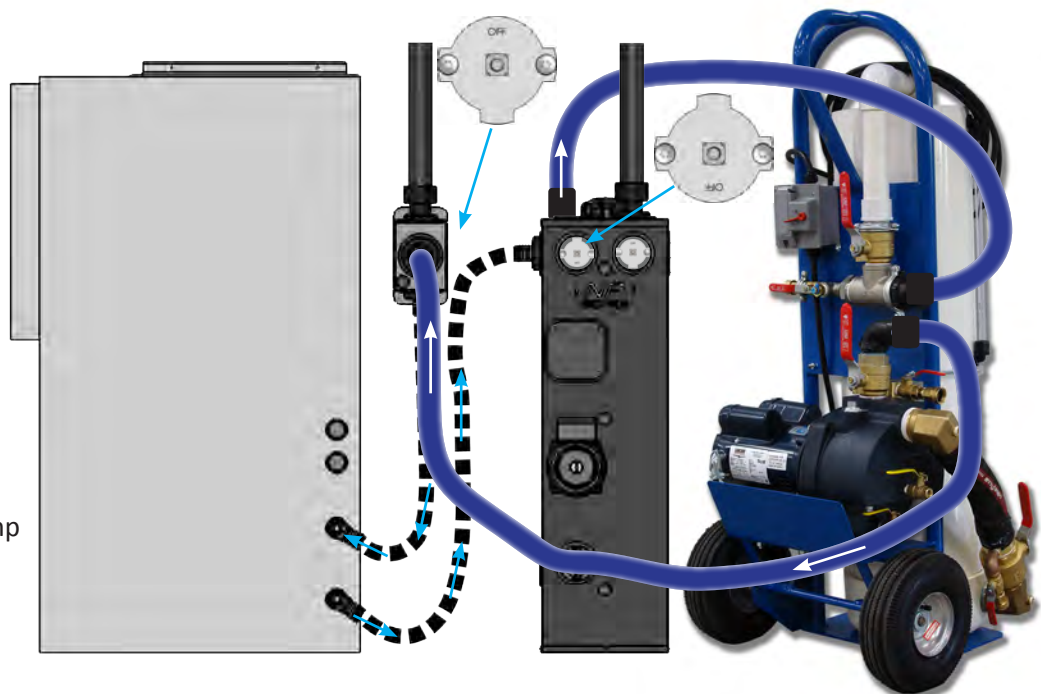

Figure 12: Connecting flush cart for heat pump flushing
8. Disconnect the flush cart hose from the right side of the flow center, and reconnect it to the top as shown below in Figure 12 (if heat pump piping is connected to the top, the flush cart hose would be connected to the left side).